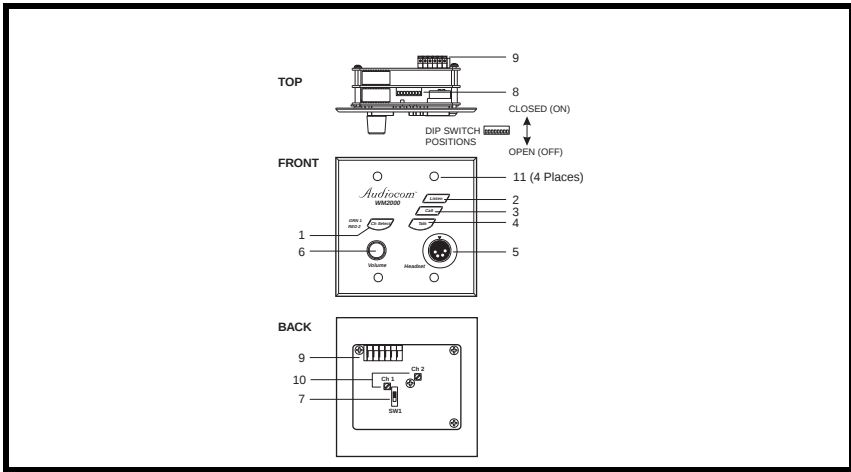

FIGURE 1. Reference View, WM-2000 shown (see numbered features list).
Before making connections, read the configuration switch notes that follow and make sure all switches are properly set for your intended usage. Chapter 1, "Configuration Switch Settings," on page 4 lists the switch descriptions and factory default settings. Figure 1 on page 2 shows the location of the DIP switches.
4. Using a small, flat-bladed screwdriver, adjust channel 1 sidetone trimmer (Figure 1) to minimize your voice level in the headphones
4. While talking into the microphone, use a small, flat-bladed screwdriver to adjust the channel 1 sidetone trimmer (Figure 1) so that you can hear your own voice in the headphones at an acceptable level.